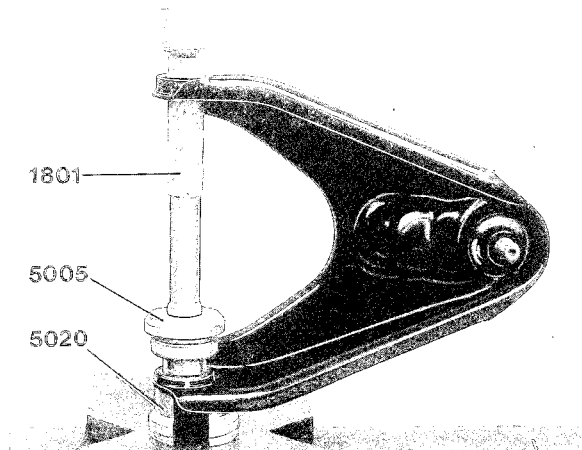

Fig. 6-35. Front bushing installation
5. Press in the front bushing (P/N 679 247-7) with the help of driver 5005, handle 1801 and adapter 5020, Fig. 6-35.